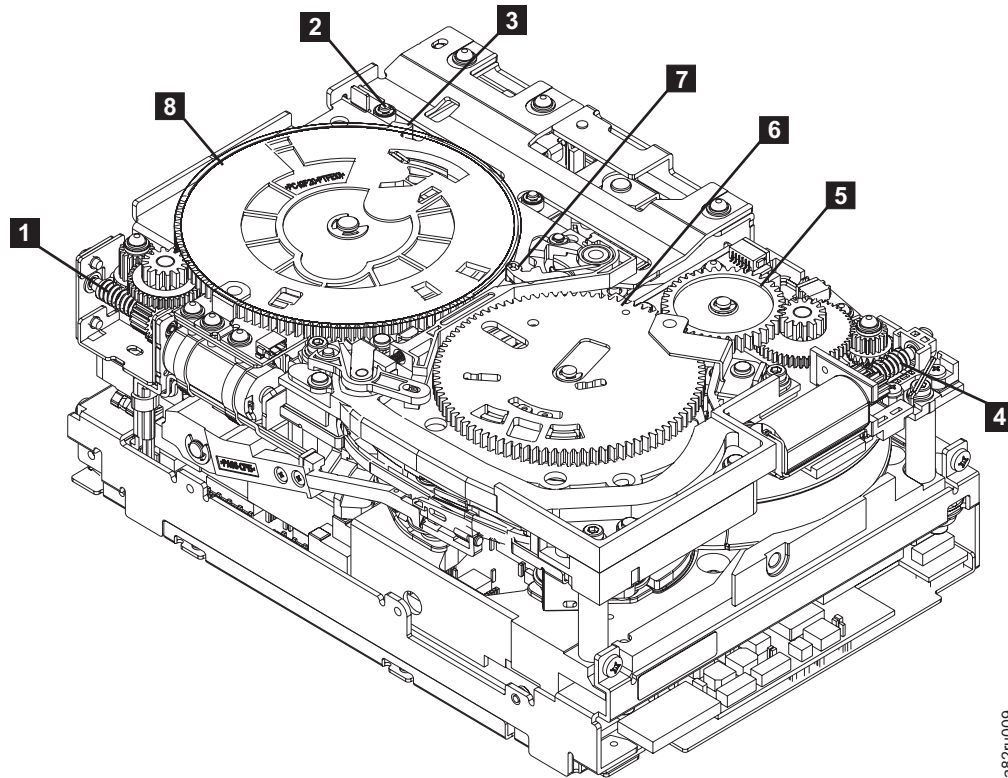
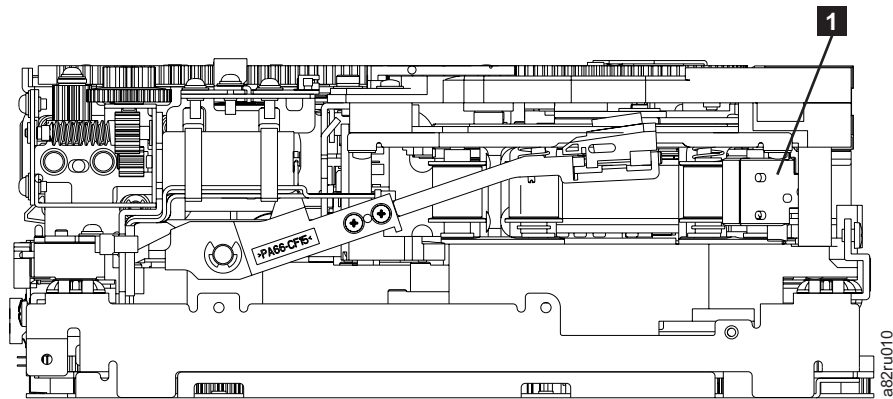

Figure F-8. Drive with cover removed to reveal gear train.
Figure F-9. Leader Block Assembly (LBA)
3. Locate the threader motor worm gear (**4** in Figure F-8) the rear of the drive. Use your finger to rotate the threader motor worm gear and slowly rotate the threader mechanism gear (**6** in) clockwise.. This rotates the threader motor worm gear (**4** in Figure F-8) clockwise, drawing the tape leader block assembly (LBA) into the cartridge.
4. As the LBA is secured in the cartridge, you should hear the LBA retention spring clips click into place. If you do not hear the click, continue rolling until the threader motor worm gear (**4** in Figure F-8) stops. The LBA is in the correct position.
- a. Loader mechanism gear (**8** in Figure F-8 on page F-7) nearest the front of the drive that actuates the cartridge loader mechanism
- b. Position of the rotator stub (**3** in Figure F-8 on page F-7).
- c. Front loader motor worm gear (**1** in Figure F-8 on page F-7). Rotating this gear allows the loader mechanism gear (**8** in Figure F-8 on page F-7) to turn.
6. Rotate the loader motor worm gear (**1** in Figure F-8 on page F-7) to turn the loader mechanism gear (**6** in Figure F-8 on page F-7) counterclockwise. Continue turning until the rotator stub (**3** in Figure F-8 on page F-7) loses contact with the lever (**7** in Figure F-8 on page F-7). This releases the LBA leader pin.
7. Rotate the threader motor worm gear (**4** in Figure F-8 on page F-7) to turn the threader mechanism gear (**6** in Figure F-8 on page F-7) counterclockwise. This moves the LBA out of the cartridge and past the read/write head. Stop this rotation when the LBA is near the tape guide roller nearest the rear of the drive (**1** in Figure F-9).
8. Continue rotating the loader motor worm gear (**1** in Figure F-8 on page F-7) until the rotator stub (**3** in Figure F-8 on page F-7) is positioned as shown. Notice that the rotator stub (**3** in Figure F-8 on page F-7) is nearly aligned with the cartridge loader tray guide bearing (**2** in Figure F-8 on page F-7).